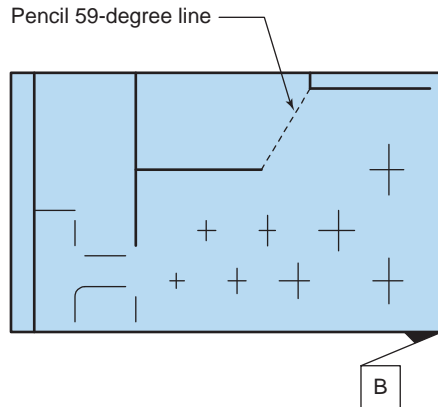

Figure 8-36 Scribe lines parallel to Datum B limited by 59-degree pencil line.
4. *Scribe lines parallel to Datum B* (Fig. 8-36).